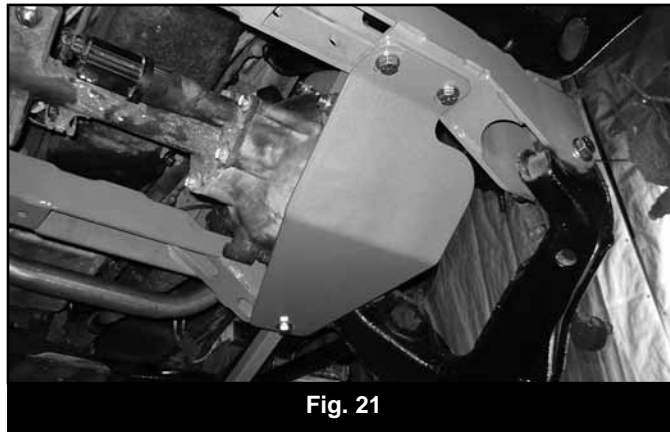

Fig. 21
41. Install the new differential skid plate (O2346) to the welded nuts on the front and rear crossmembers with $\frac{1}{2}$ " x 1-1/4" bolts and $\frac{1}{2}$ " SAE washers (BP 555). The inside front hole on the front crossmember will require a 1/2" serrated flanged nut (BP 555). Use Loctite on the bolt threads. Leave hardware loose. (Fig 21)